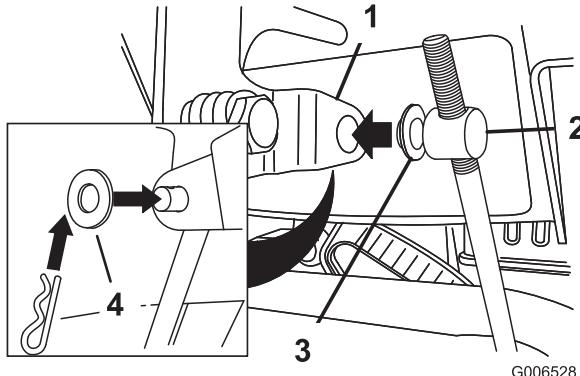

Figure 5
3. Place a flat washer on the trunnion (Figure 5).
6. Pull up on the speed control rod and insert the trunnion into the hole in the speed selector lever (Figure 5).
- Disconnect the trunnion from the speed selector lever (Figure 5).
- Turn the trunnion downward (clockwise) on the speed control rod (Figure 5).
- Connect the trunnion to the speed selector lever (Figure 5).